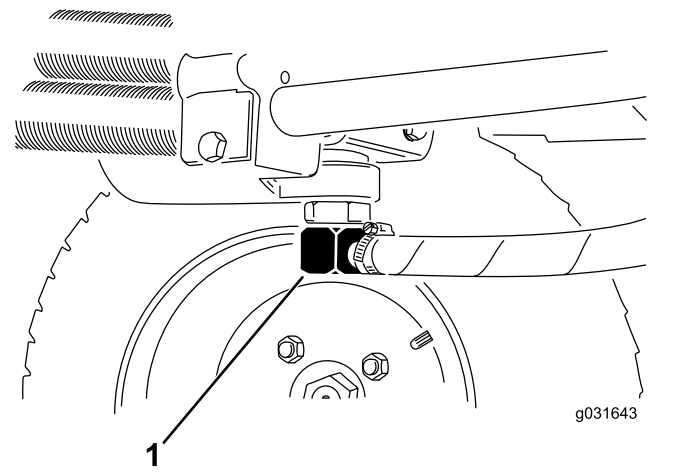

Figure 65
2. Disconnect the hydraulic line or remove the hydraulic filter and let the hydraulic fluid flow into a drain pan (Figure 67 and Figure 65).
3. Install the hydraulic line when the hydraulic fluid stops draining (Figure 65).